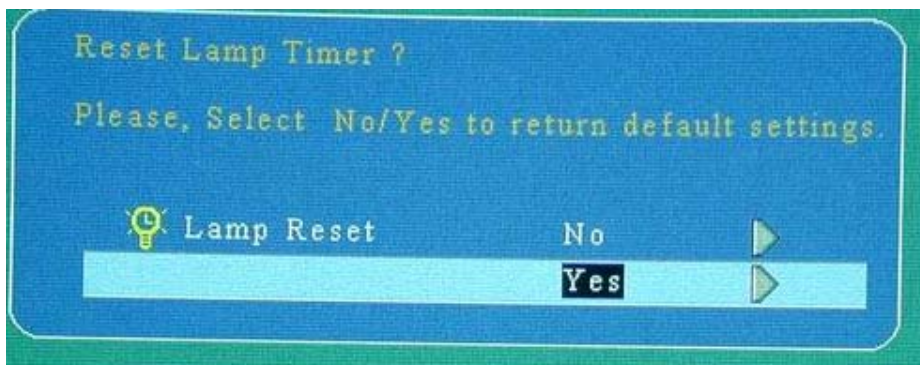

fig 4
- c. Confirmation information shows up as fig 4